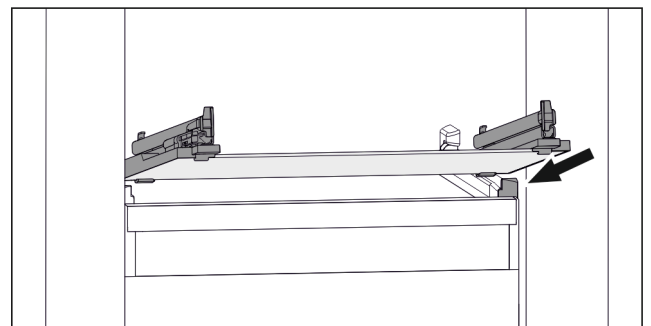

Fig. 134 Example illustration of glass shelf
- ▶ Position glass shelf at an angle behind the stoppers. (see Fig. 134)